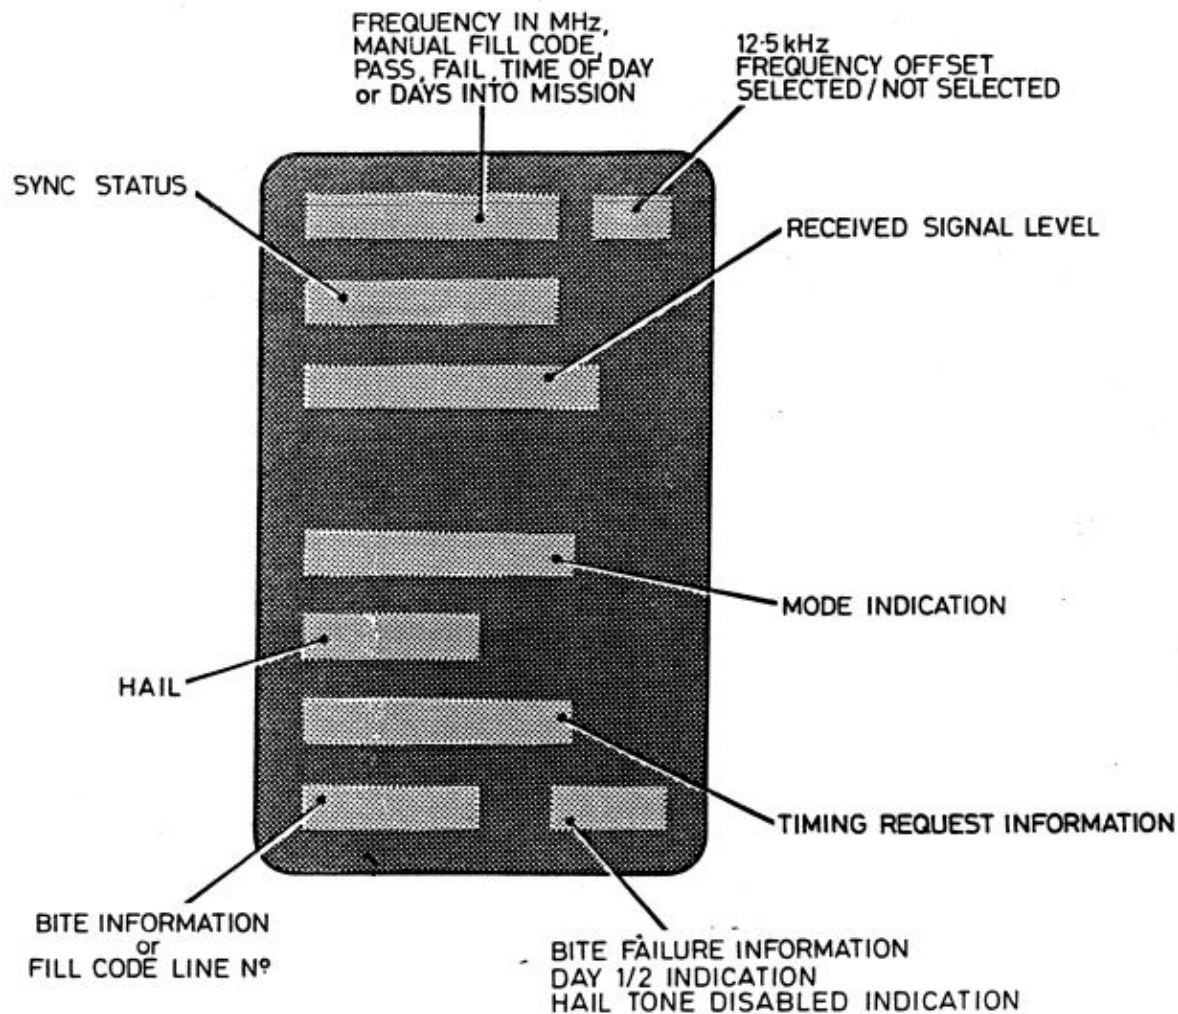

FIGURE 1 LCD Information
- 4. The LCD panel is used to indicate function or status information. Details are shown in Fig.1.